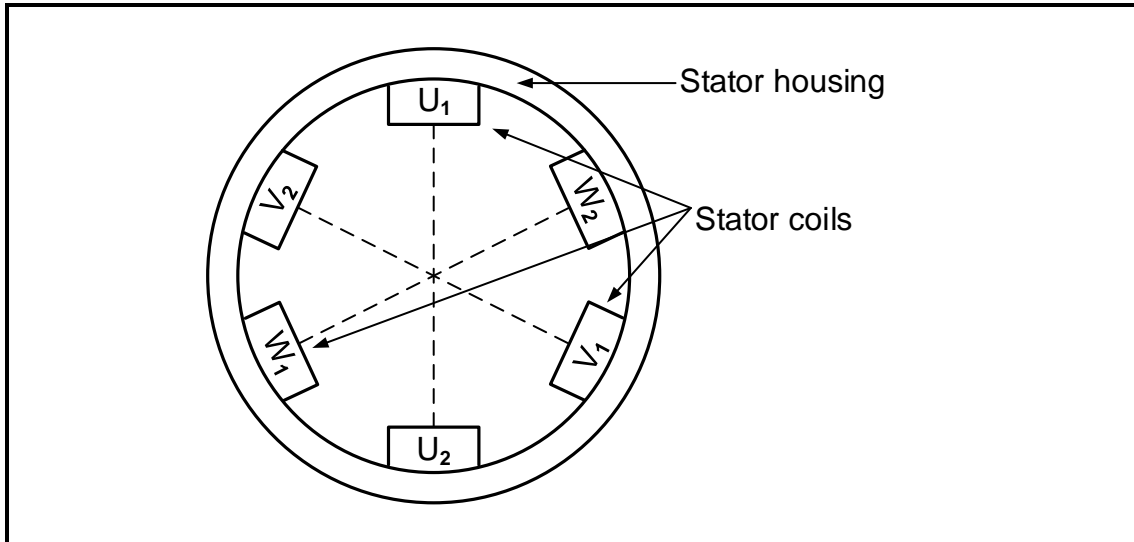

FIGURE 6.2: THREE-PHASE STATOR
- 6.2 FIGURE 6.2 below shows how the coils of a three-phase induction motor are placed in a stator. Answer the questions that follow.